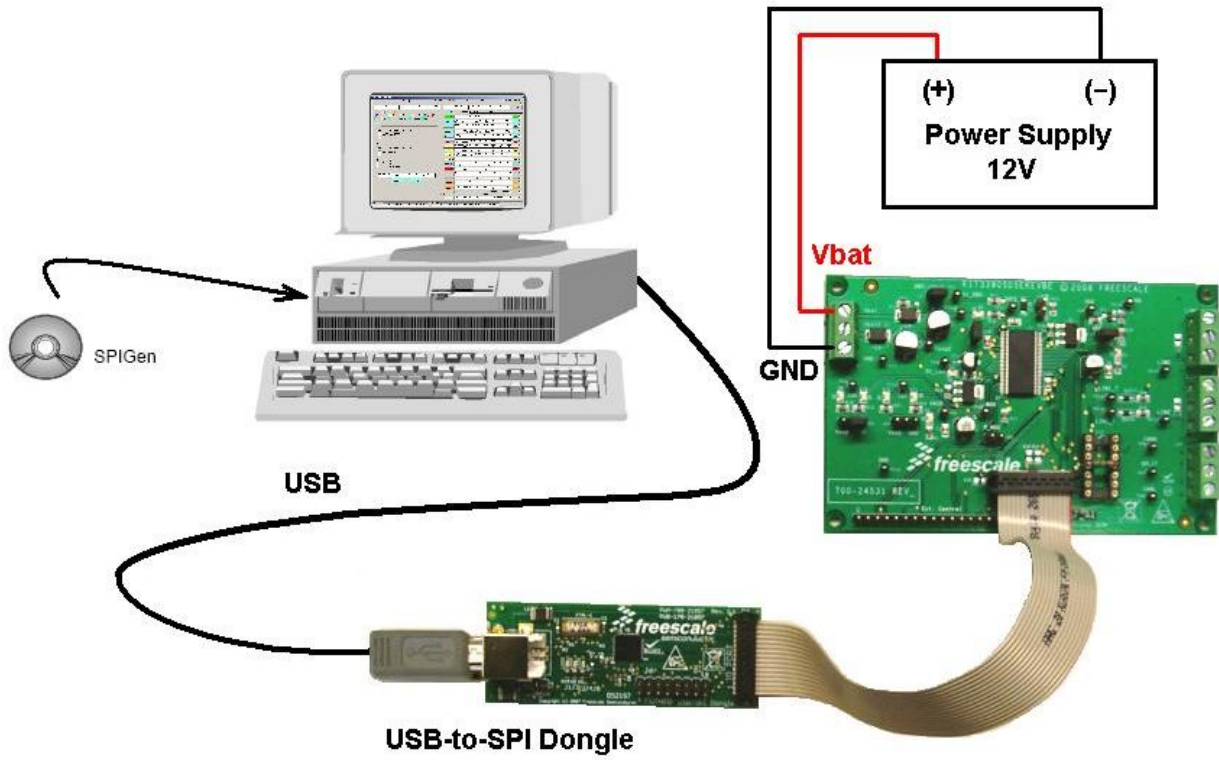

Figure 2. EVB Setup Configuration Diagram
2. Connect power supply to the VBAT and GND terminals on the EVB, and build the setup as shown on Figure 2.